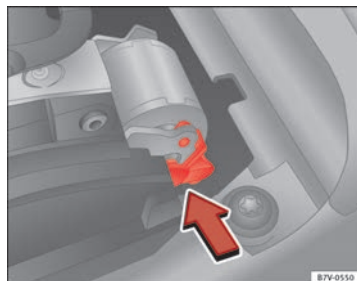

Fig. 198 Manual release of gear selector lever
- Press the release lever ⇒ Fig. 198 in the direction of the arrow and hold it in this position.